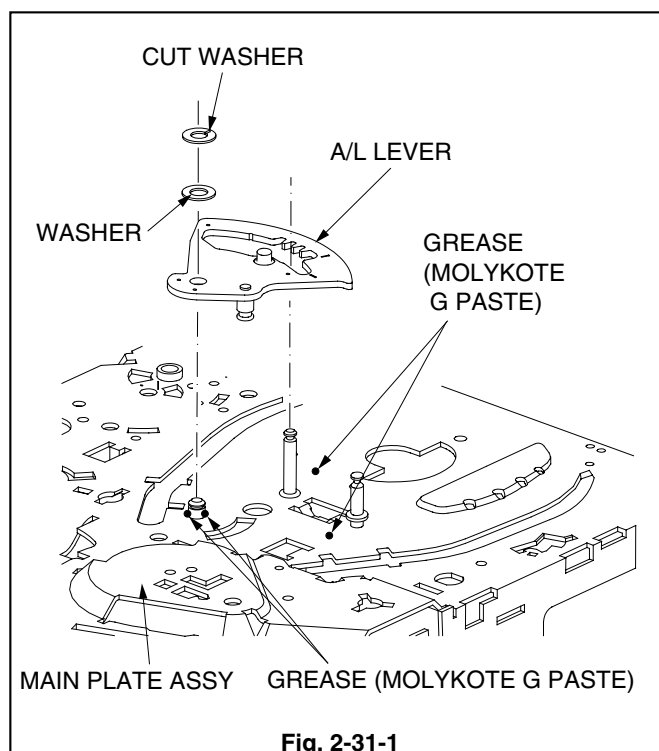

Fig. 2-31-1
1. Remove the CUT WASHER and WASHER shown in the Fig. 2-31-1. Then, remove the A/L LEVER.
**Note :** Install the LOADING ARM ASSY (TU) and LOADING ARM ASSY (SP), according to the following procedure, after installing the A/L LEVER.
1. Apply GREASE (MOLYKOTE G PASTE) [859D055O50] to the parts on the MAIN PLATE ASSY specified in the Fig. 2-31-1.